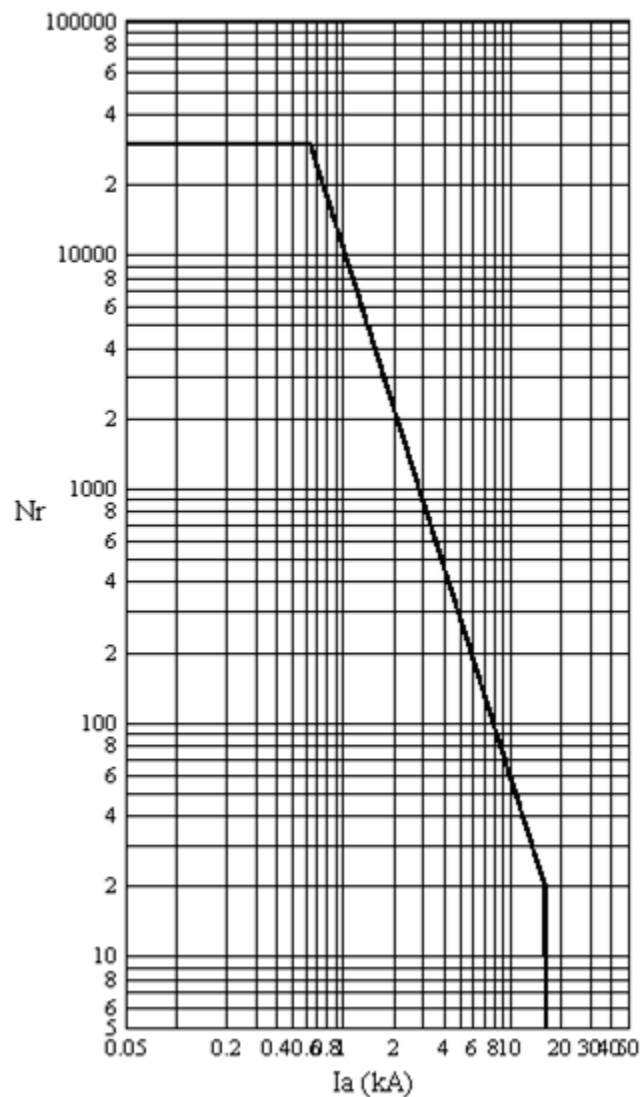

Figure 410: Trip Curves for a typical 12 kV, 630 A, 16 kA vacuum interrupter
*Figure 410* shows that there are 30,000 possible operations at the rated operating current of 630 A and 20 operations at the rated fault current 16 kA. Therefore, if the tripping current is 10 kA, one operation at 10 kA is equivalent to 30,000/60=500 operations at the rated current. It is also assumed that prior to this tripping, the remaining life of the circuit breaker is 15,000 operations. Therefore, after one operation of 10 kA, the remaining life of the circuit breaker is 15,000-500=14,500 at the rated operating current.